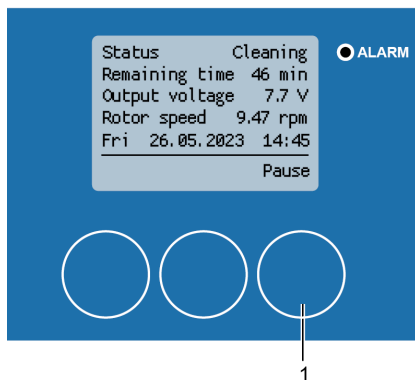

Fig. 165: Pause cleaning process
1. Press **[Pause]** (Fig. 165/1) to pause the cleaning process.